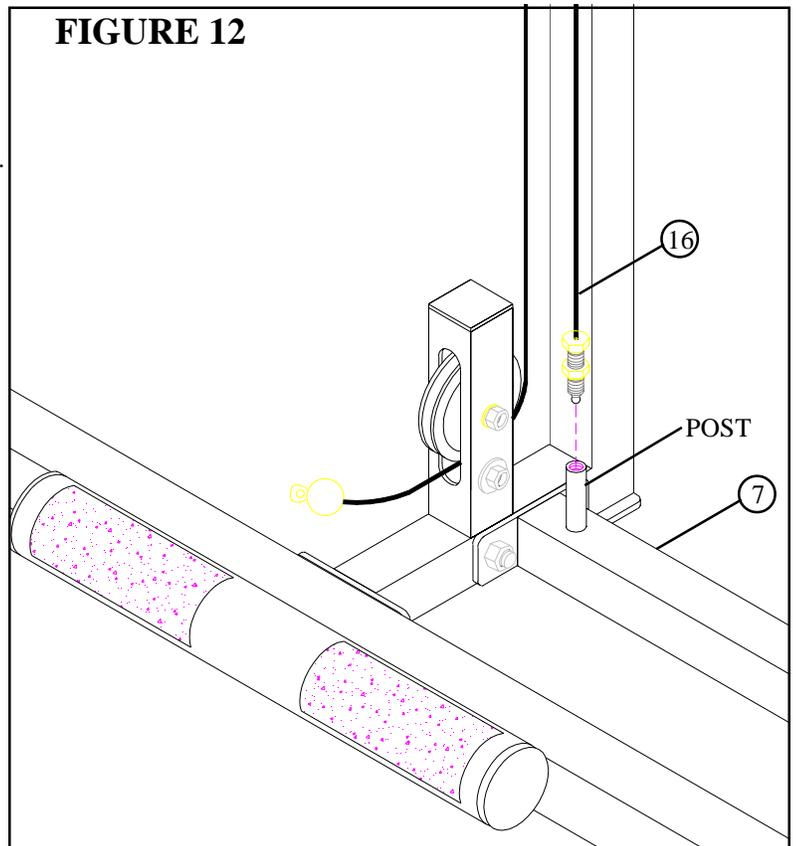

FIGURE 12
- Screw the threaded end of the LOW ROW CABLE (16) approximately 3/4" into the end of the post on the WEIGHT STACK BASE (7) and tighten jam nut securely. See FIGURE 12.